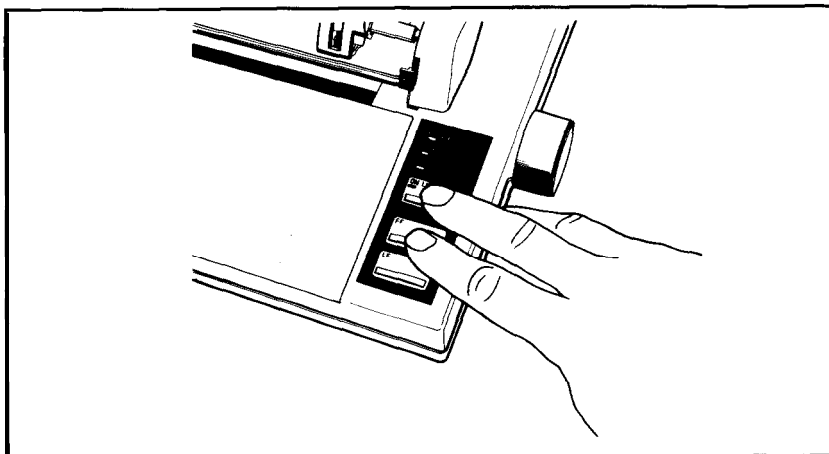

Figure 2-1. Turning SelecType on
2. Press both the ON LINE and FF buttons **at the same time**, as illustrated in Figure 2-1.